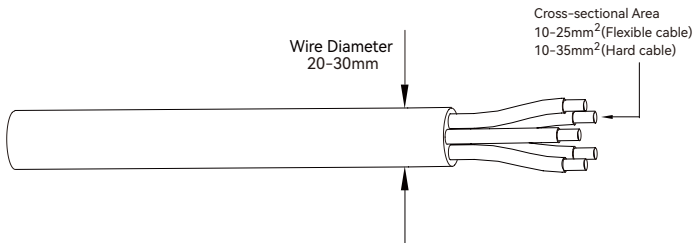

Figure 5-4
② According to the figure 5-4, select an appropriate cable, peel the insulation sleeve of AC cable off for 95~100mm, and peel off the end of 3L/PE / N wires for 15mm.